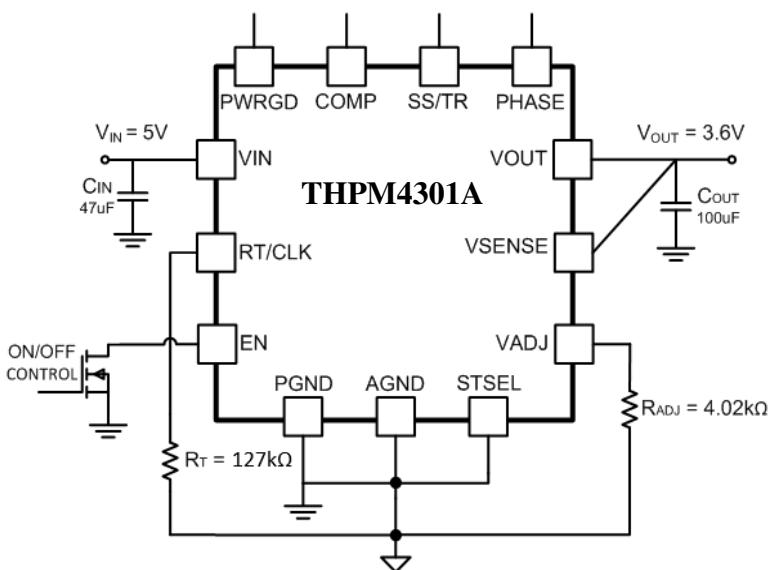

Fig. 23 Typical Schematic $V_{IN} = 4.4V$ to $6.0V$, $V_{OUT} = 3.6V$, $F_S = 750kHz$
Fig. 23 shows a typical schematic for a 5V input, 3.6V output application using THPM4301A. The adjustment resistor, R_{ADJ} , is selected as 4.02k Ω calculated based on Equation (1). In this example, the switching frequency is selected as 750kHz by connecting the timing resistor of 127k Ω between R_T/CLK pin and AGND pin.